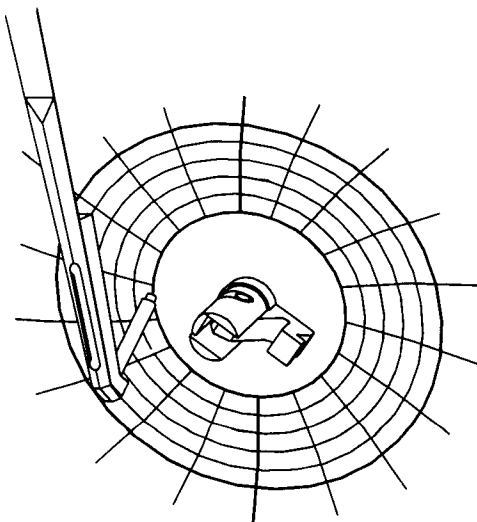

Figure 6.3 : Correct bottom of chart position
- Initially, the nib will be moved to the current position stored in memory which should correspond with the lowest graduation of the chart as shown in Figure 6.3.